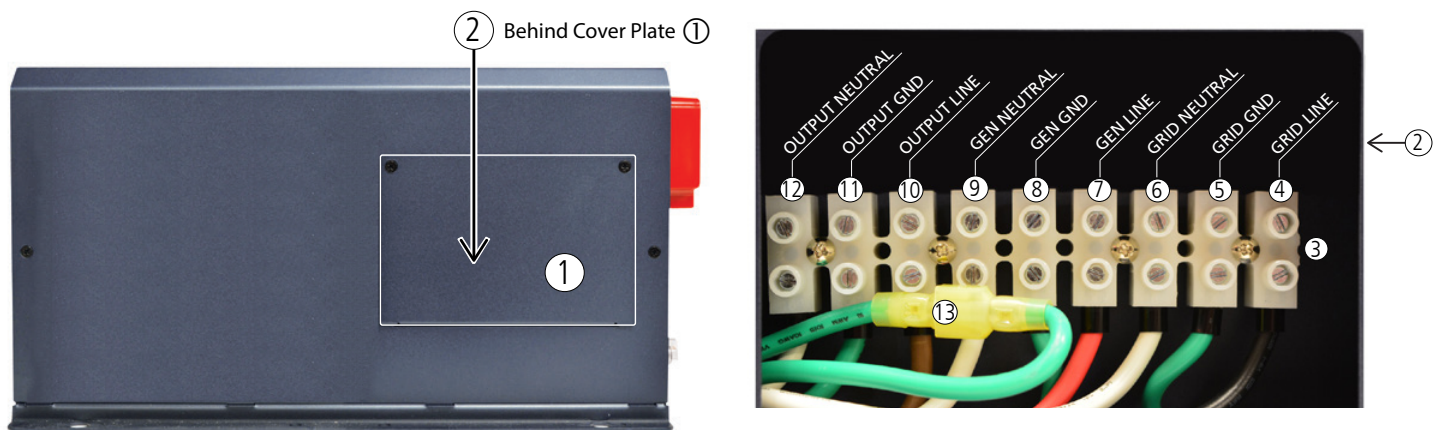

Fig 3.9 AC Input and Output
AC side layout and connection arrangement are shown in Fig 3.9.
LEGEND for Fig 3.9
Make sure you use the appropriate Wire End Terminals *[refer to Section when connecting the wires to AC Input/Output terminal block (No. 3 in Fig. 3.9)]*.
Assurez-vous d'utiliser les bornes de connexion appropriées *[reportez-vous à la section correspondante lors du raccordement des fils au bornier d'entrée/sortie CA (n° 3 sur la figure 3.9)]*.
- Disabling Neutral to Ground Bond: In some applications, the Output Neutral may be required to remain isolated from chassis/Ground at all times. For this, automatic Output Neutral to chassis Ground bond can be disabled by disconnecting the Male/Female Disconnect *(13, Fig 3.9)* located in the AC Wiring Compartment.
The AC input and output supply connections are located in a pocket protected by a cover with a removable front plate (1,2 Fig 3.9). Three 27.8mm / 1³/₃₂" diameter holes (10A to 10C, Fig 2.1) have been provided for cable / conduit entry. Remove the caps covering the holes and install appropriate ¾" Trade Size Fitting for routing the AC input and output wires/conduits.
Screw down type of terminal block (3, Fig 3.9) is used for connecting the wires. The hole size for wire entry is 6 mm and set screw size is M4. It can accommodate conductors with solid or multi-stranded wire size range of AWG #6 to AWG #20.